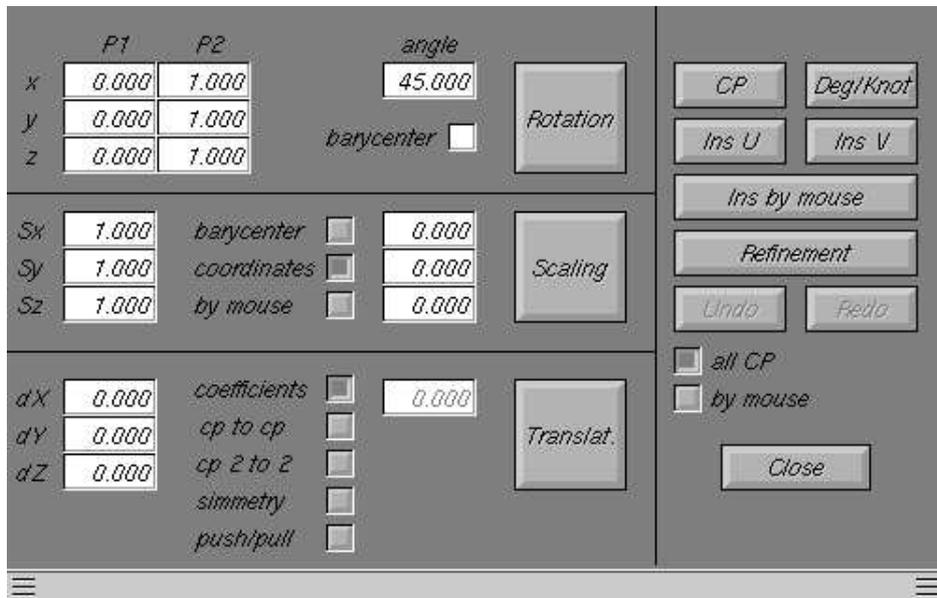

Figure 6.1: Modify Surface menu window
This button allows the user to change the shape of the active surface, or to move it into the 3D space. The window of fig. 6.1 opens; this contains two parts: geometric transformation and modify surface parameters.
- to modify the surface parameters we have (fig.6.1):